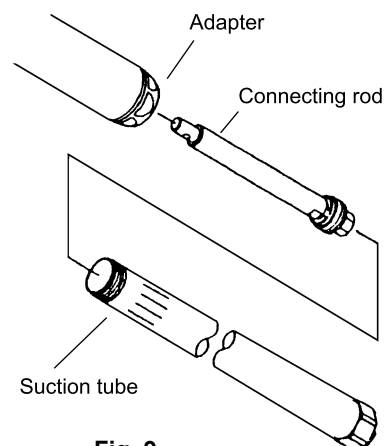

Fig. 9
- 9) Pull out the connecting rod. (Fig. 9)